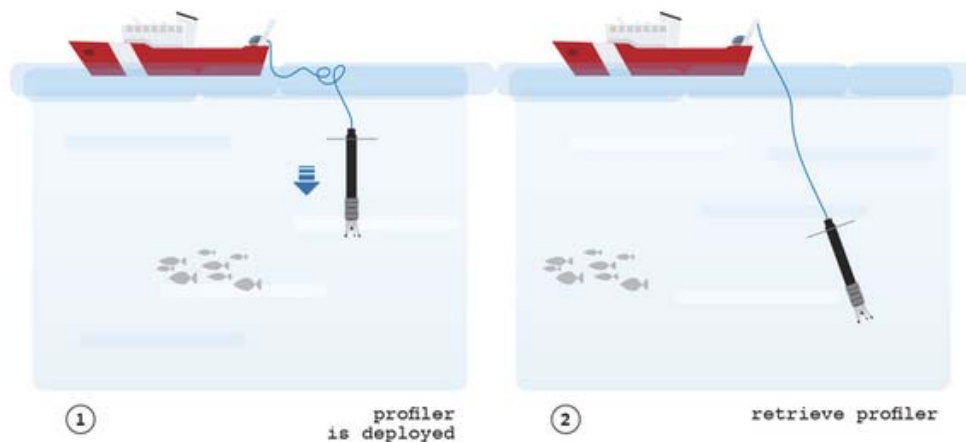

Figure 35: Downward profile of a vertical profiler from the stern of a ship
A schematic of the deployment technique for a downward profile is shown in (Figure 35). The procedure is as follows:
5. Pay out the tether at a rate faster than the rate at which the instrument is moving away from the ship. You achieve this condition when there are one to two loops (5-10 m) of slack tether near the surface (Figure 35, left). The exact amount is not critical but it is always good to have a few extra meters floating in the water in case you momentarily must stop paying out the tether – for example, to undo a snag.
7. Recover the instrument by pulling it to the surface using the tether (Figure 35, right).